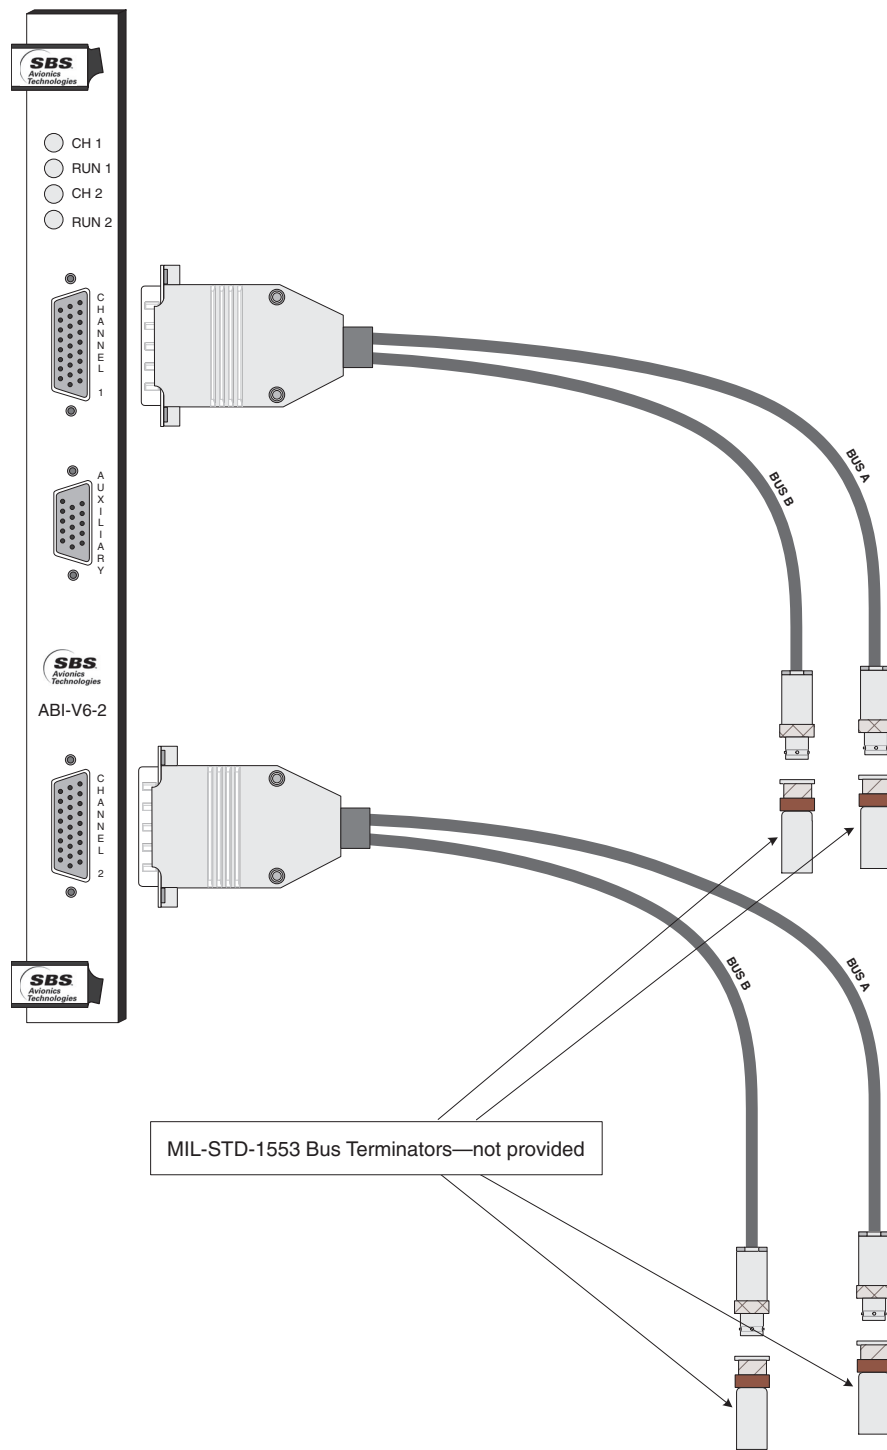

Figure 4.4.1: Attaching the Cable Assembly to the V6
3. Attach 1553 bus terminators to each Bus lead on the cable assemblies), as illustrated in Figure 4.4.1.